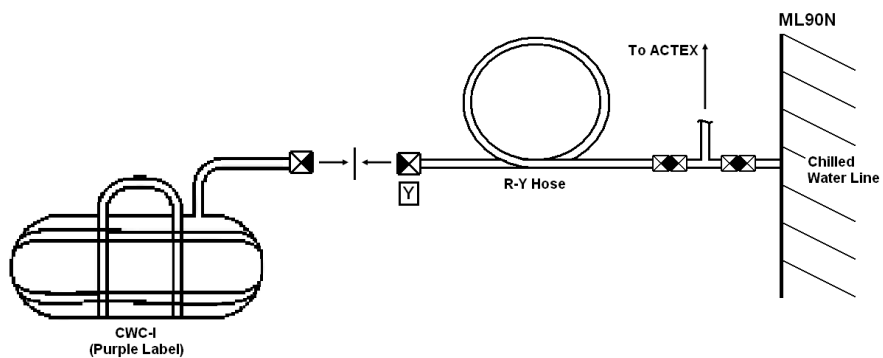

Figure 10-7.- CWC-I fill initiation.
6. Connect CWC-I to R-Y Hose (see fig 10-7)